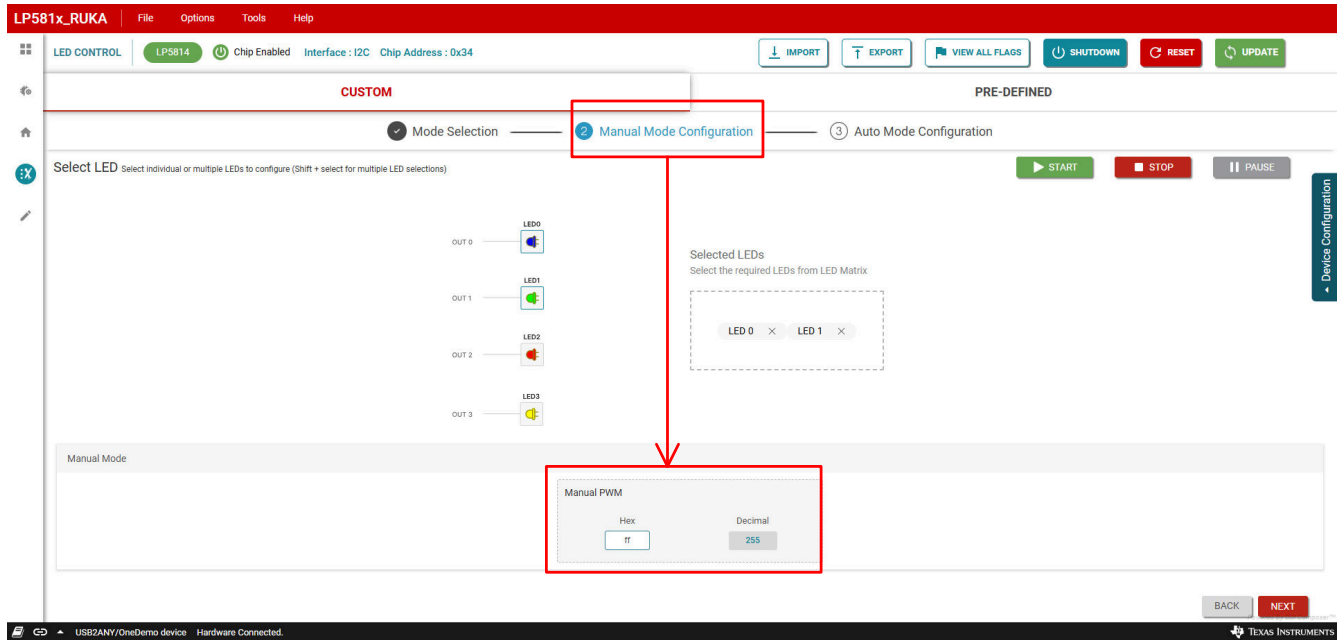

Figure 3-12. Manual PWM Set
7. Click the *Manual Mode Configuration* tab to open the manual PWM setting panel as shown in Figure 3-12. Set manual PWM value for the selected blue LED and green LED through entering the data in the *Manual PWM* control.